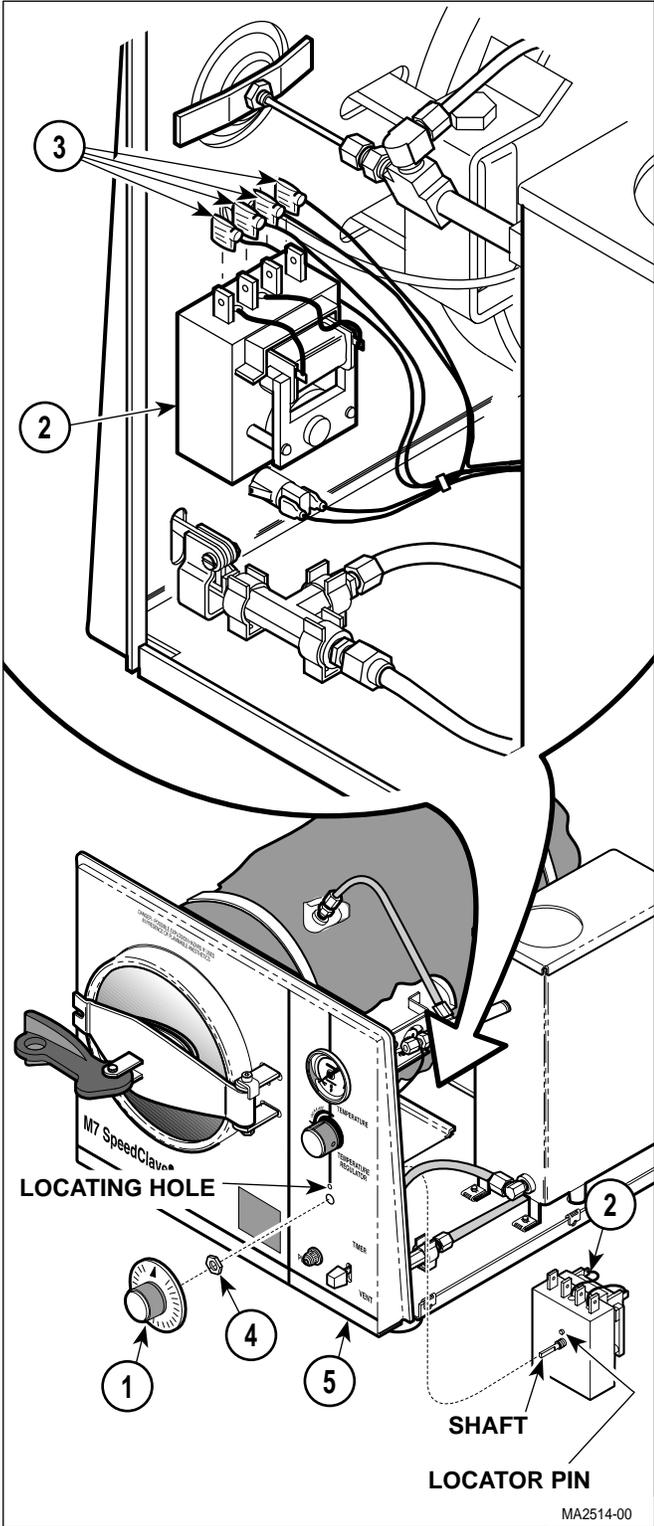

Figure 4-3. Timer Assembly Removal / Installation
- (1) Remove cover assembly (Refer to para 4.2).
- (2) Remove the timer knob (1, Figure 4-3) from shaft of timer assembly (2) by pulling straight out on timer knob.
- (3) Tag and disconnect four wires (3) from terminals of timer assembly (2).
- (4) Remove nut (4) and timer assembly (2) from front panel (5).